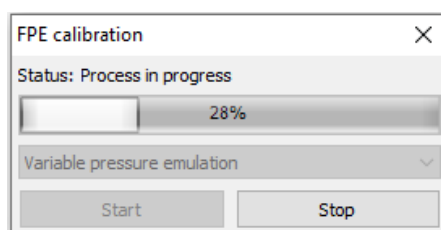

Figure 22 Calibration of the fuel pressure emulator
- **Fuel pressure emulator (FPE)⁴** – this option activates the integrated petrol pressure emulator, required for vehicles that generate fuel pressure errors when the engine is fuelled by gas. In order to use the option, connect the controller to the petrol pressure control circuits as shown on Figure 7, according to recommendations presented in Table 1. Next, perform emulator calibration (Figure 22). Start by selecting the pressure emulation type in the tab, press Start and start the engine, which needs to be close to or at its operating temperature in prior of this procedure. The calibration is an automatic process and takes about 3 minutes. Correct calibration will end with the “Completed successfully” message.